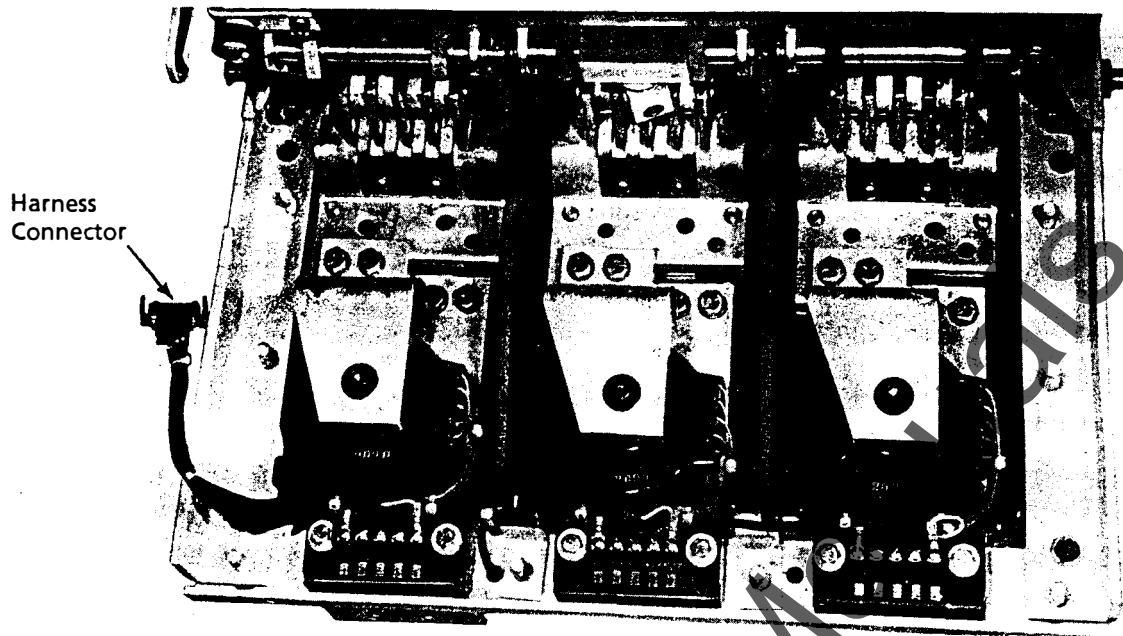

Fig. 1 — View of drawout breaker back frame showing the programmer/phase sensor harness connector.
5. Separate the breaker front frame from its back frame. Refer to GEK 7303, pg. 7. For Power Sensor equipped breakers refer to GEK 7303, pg. 35-39 for additional information. For SST programmer equipped breakers disconnect the Programmer/Phase Sensor harness connector, refer to Fig. 1.
5. Separate the breaker front frame from its back frame. Refer to GEK 7303, Pg. 7. For Power Sensor equipped breakers refer to GEK 7303, pg. 35-39 for additional information. For SST programmer equipped breakers disconnect the Programmer/Phase Sensor harness connector, refer to Fig. 1.